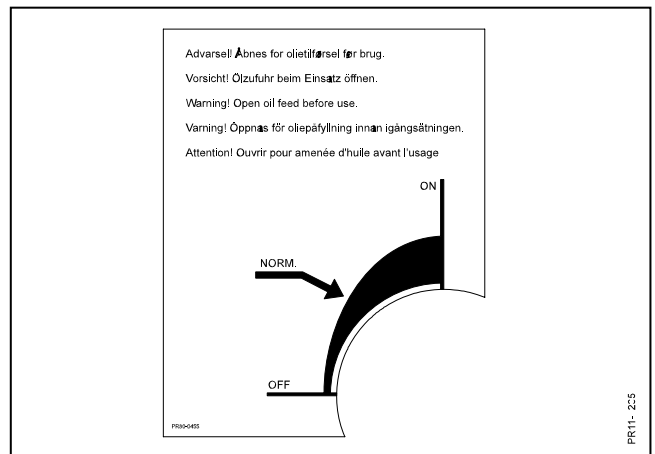

Fig. 5-20
- Fig. 5-20** The drip interval must be 2-3 drip/min. This corresponds to a consumption of approx. 0.2 litres of oil during one working day (10 hours). Adjust the drip interval by turning the tap to approx. half-open. Please note that the oil temperature etc. may require a re-adjustment.